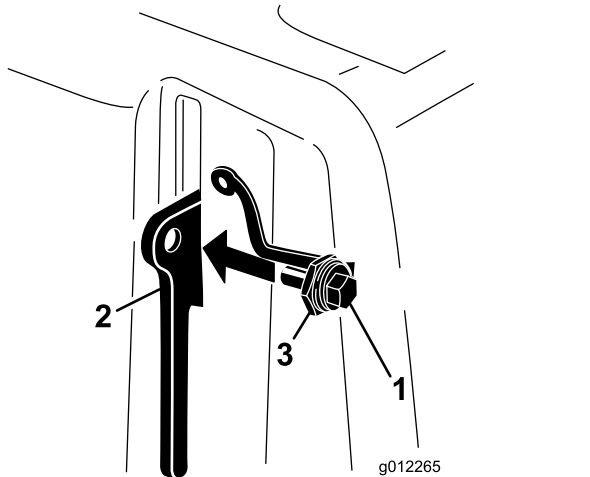

Figure 8
3. Thread the bolt into the latch lever (Figure 8).